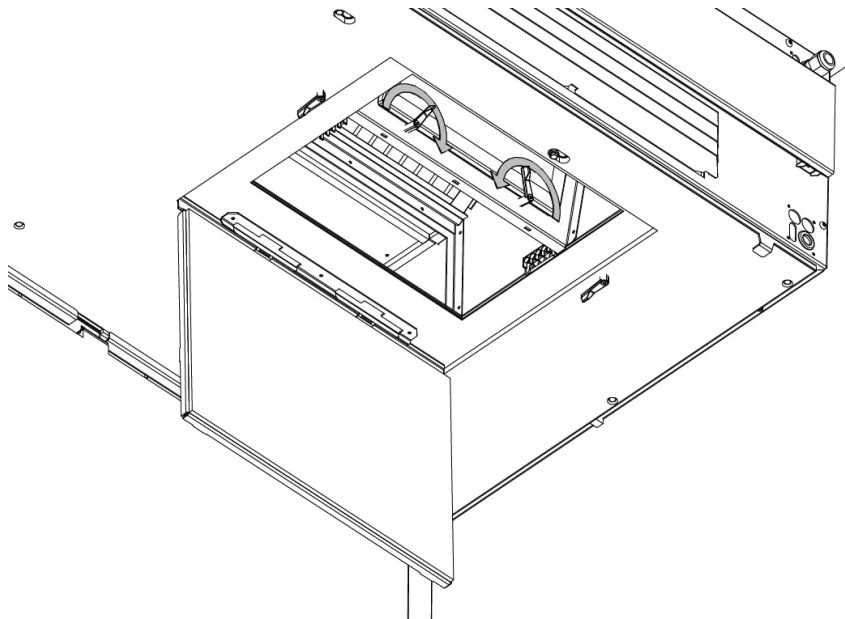

Figure 10: Open the hinges holding the coarse filter
3. Open the hinges that keep the coarse filter in place, see Figure 10 below.